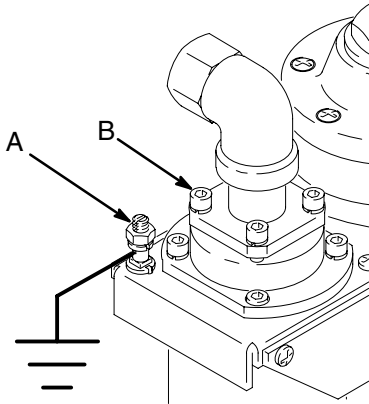
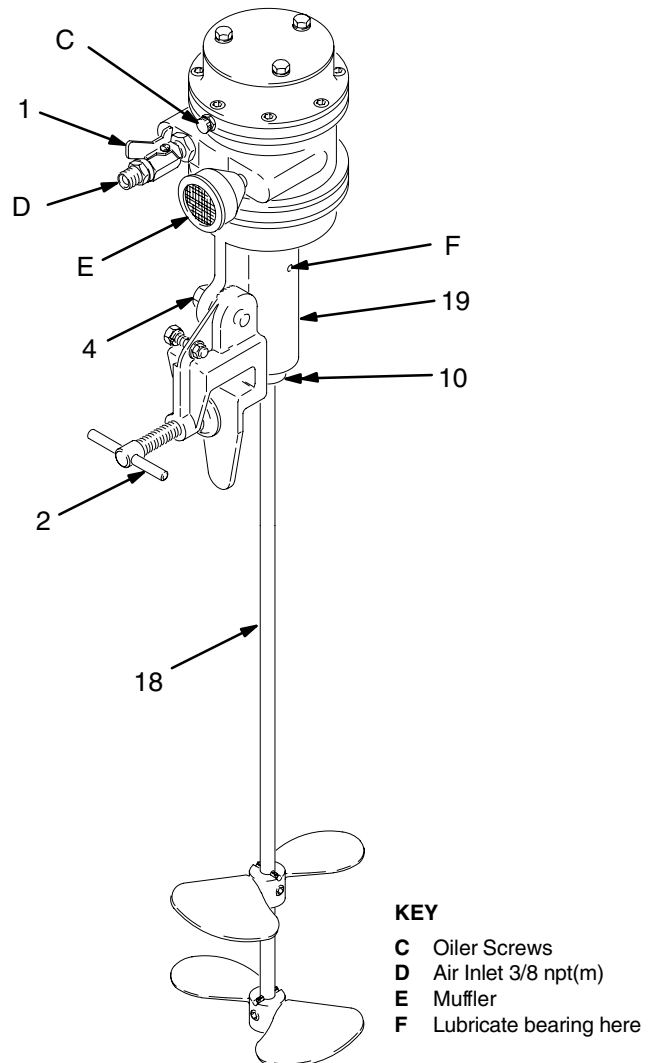

Fig. 1
Fig. 2
NOTE: Reference numbers and letters in parentheses in the text refer to the Parts Drawing, Fig. 1 and Fig. 2.
Connect one end of the ground wire (A) to the agitator's ground connector (B). See Fig. 1. Connect the other end of the ground wire to a true earth ground. Order Part No. 237569, Ground Wire and Clamp.
Preparing the Agitator for Use (See Fig. 2)
During continuous operation, lubricate the bearing (10) every week by injecting several drops of light lubricating oil into the hole (F) in the motor support (19). See Fig. 2.